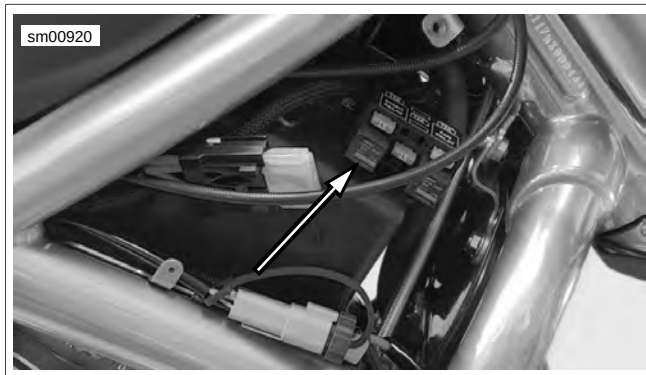

Figure 7-9. Starter Relay
2. See Figure 7-9. Remove starter relay from fuse block.